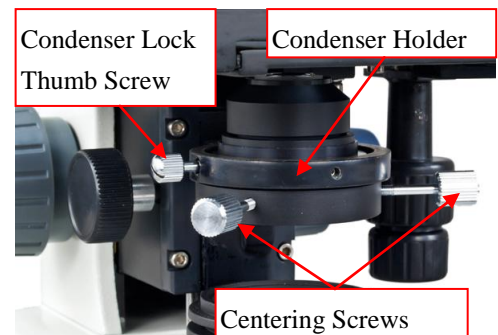

Fig.12
- Install the dry darkfield condenser and tighten the condenser lock thumb screw on the condenser holder (see **Fig. 12**).